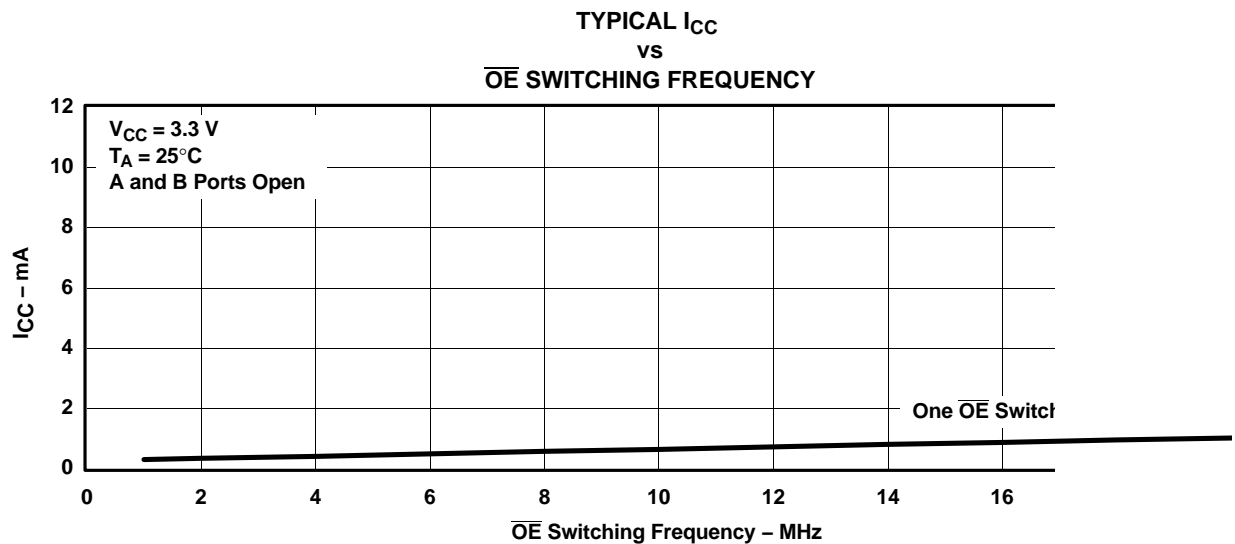

Figure 2. Typical I_{CC} vs \overline{OE} Switching Frequency
(1) V_{IN} and I_{IN} refer to control inputs. V_I , V_O , I_I , and I_O refer to data pins.
(2) All typical values are at $V_{CC} = 3.3 \text{ V}$ (unless otherwise noted), $T_A = 25^\circ\text{C}$.
(3) For I/O ports, the parameter I_{OZ} includes the input leakage current.
(4) This is the increase in supply current for each input that is at the specified TTL voltage level, rather than V_{CC} or GND.
(5) This parameter specifies the dynamic power-supply current associated with the operating frequency of a single control input (see Figure 2).
(6) Measured by the voltage drop between the A and B terminals at the indicated current through the switch. ON-state resistance is determined by the lower of the voltages of the two (A or B) terminals.